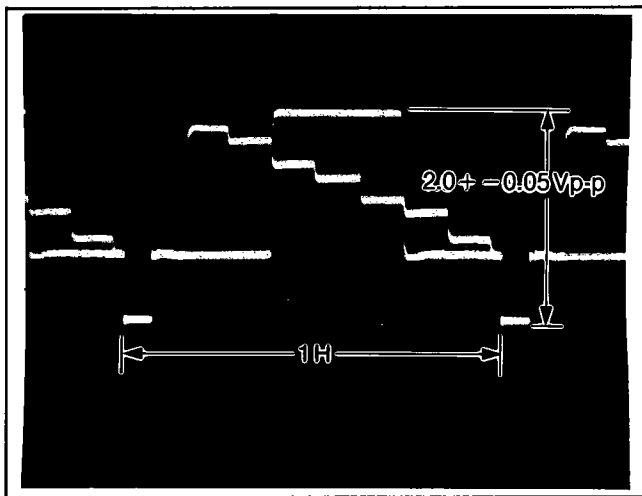

Figure E21
4. Adjust VR303 until the luminance level is 2.0 +/- 0.05Vp-p as shown in Figure E21.